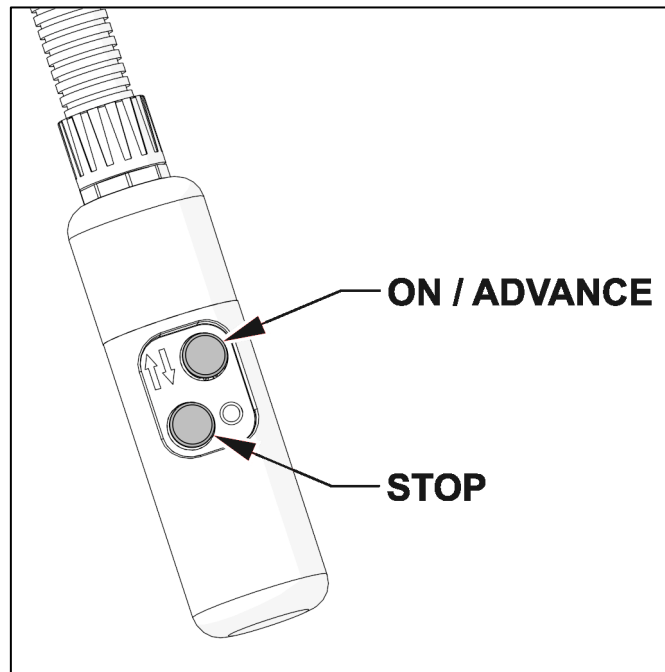

Figure 5.6: Control Pendant Buttons
- Ensure the pressure relief valve (13) is fully open (wound anti-clockwise).
- Press the 'Advance' button on the control pendant (14) once, to turn on the pump. (See *figure 5.6*)
- Press and hold the 'Advance' button (see *figure 5.6*) on the control pendant (14). The tool may stay stationary or advance slowly depending on the relief valve setting.
- Set the adjustable relief valve (13) to approx. 100 bar. The tool will advance to its full stroke. If the tool retracts, then the hoses are connected incorrectly and need to be swapped over at the tool couplers.
- Switch off the pump unit by pressing the 'Stop' button (see *figure 5.6*) on the control pendant (14) and check the tool and connections for any leaks. If leaks are found, these **MUST** be rectified before commencing with any torque operation.